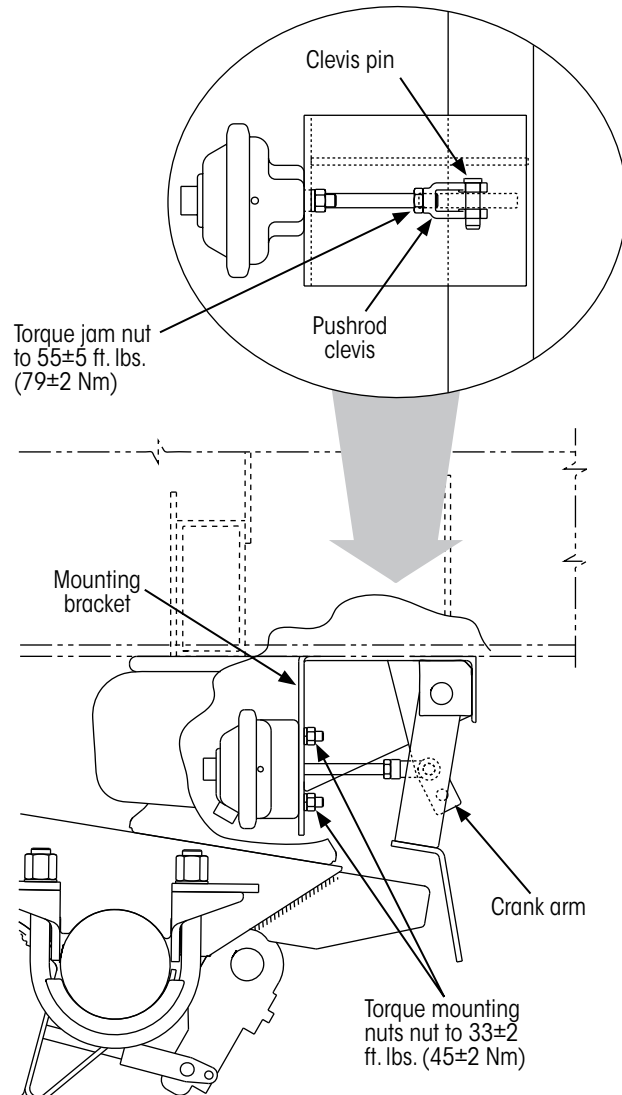

Figure 52: HT1 90T/HT230T brake chamber installation details
2. Slide the brake chamber pushrod through the mounting bracket (Figure 52).
6. Tighten the brake chamber mounting nuts (Figure 52) to 33±2 ft. lbs. (45±2 Nm) of torque.